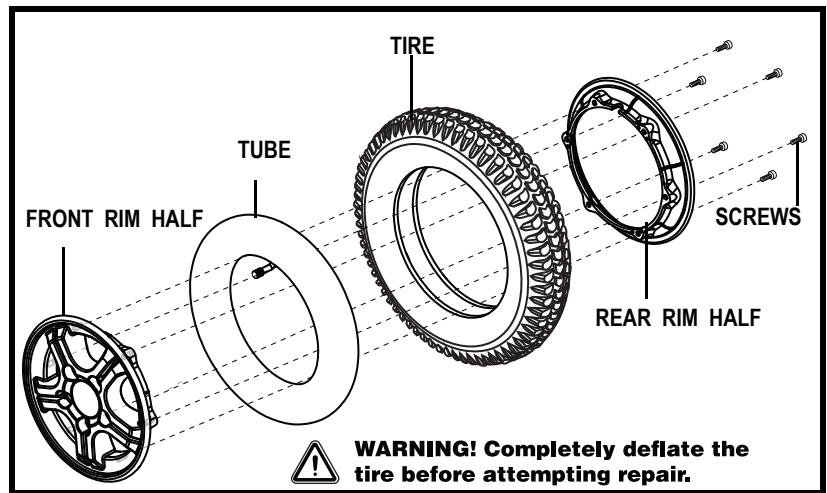

Figure 24. Quantum R-4000 Drive Wheel Disassembled
6. Remove the screws and separate the front and rear rim. See figure 24.
10. Reinstall the five (5) lug nuts and tighten.